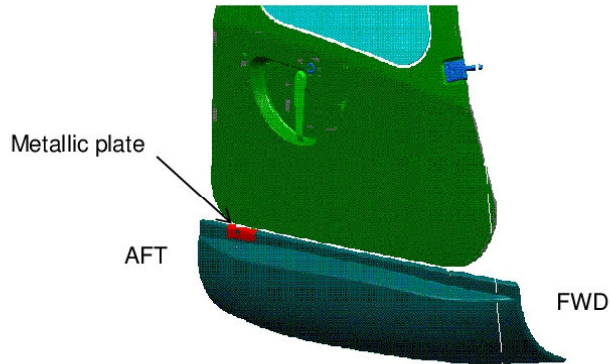

Figure 15
3. Put the metallic plate over the top AFT hinge of the rigid cover (see Figure 15).